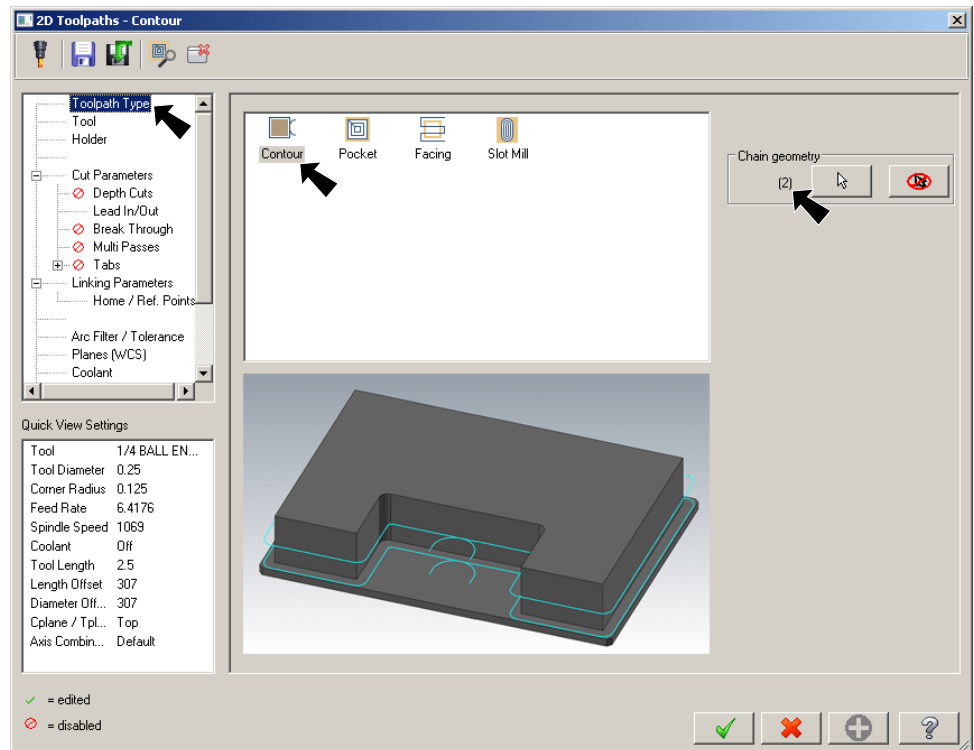

Fig. 86
Step 9. In the 2D Toolpaths Contour dialog box confirm **2 Chains** are selected, **Fig. 86**.